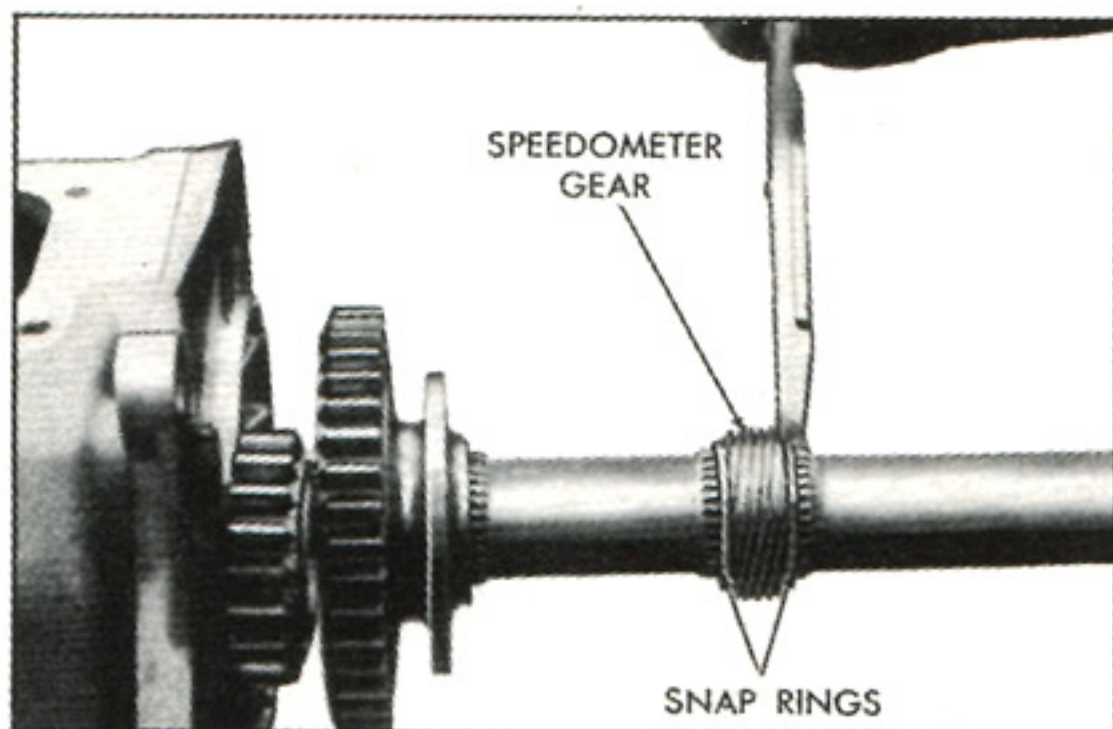

Fig. 2—Speedometer Gear and Retaining Rings
5. Remove speedometer gear outer snap ring (Fig. 2). Slide or tap gear